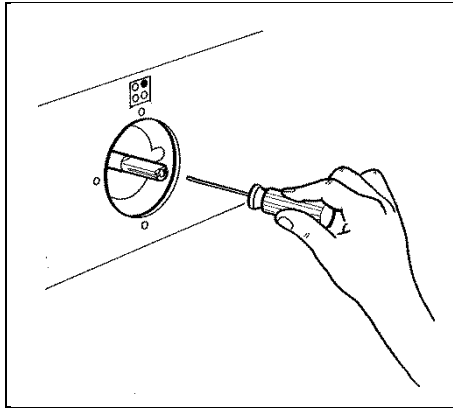
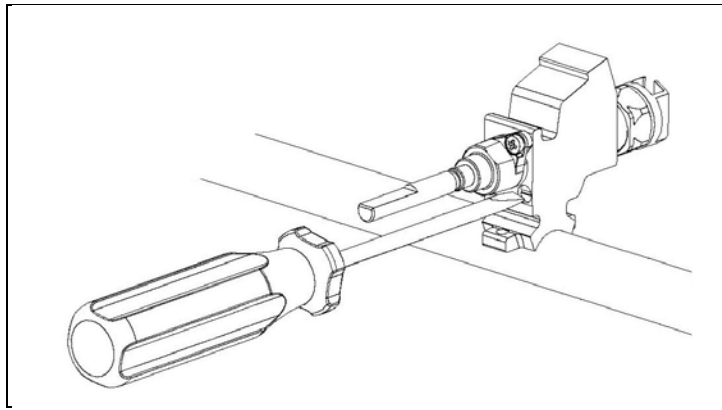

Fig.2
fig.3
- If the cooker is not equipped with safety valves on the surface burners, insert a small slotted screwdriver into the hole on the valve rod (Fig. 2) and turn the choke screw to the right or left until the burner flame is adjusted to minimum. If the cooker is equipped with safety valves, the choke valve is not located in the rod hole, but on the valve body (Fig.3).